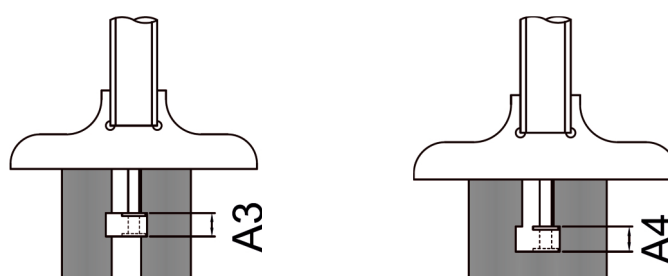

Fig. 3
- » For a disc-shaped contact point measuring the width of grooves inside a hole, gently pull the millimeter scale so the inner measuring surface of the contact point touches the top surface of the groove. Set the zero value by holding the “SET” button. Then place the outer measuring surface of the contact point on the bottom surface of the groove and measure depths A3 and A4 (Fig. 3). The thickness of the disc-shaped contact point is x , and the values of A3 and A4 equal the readings plus x .